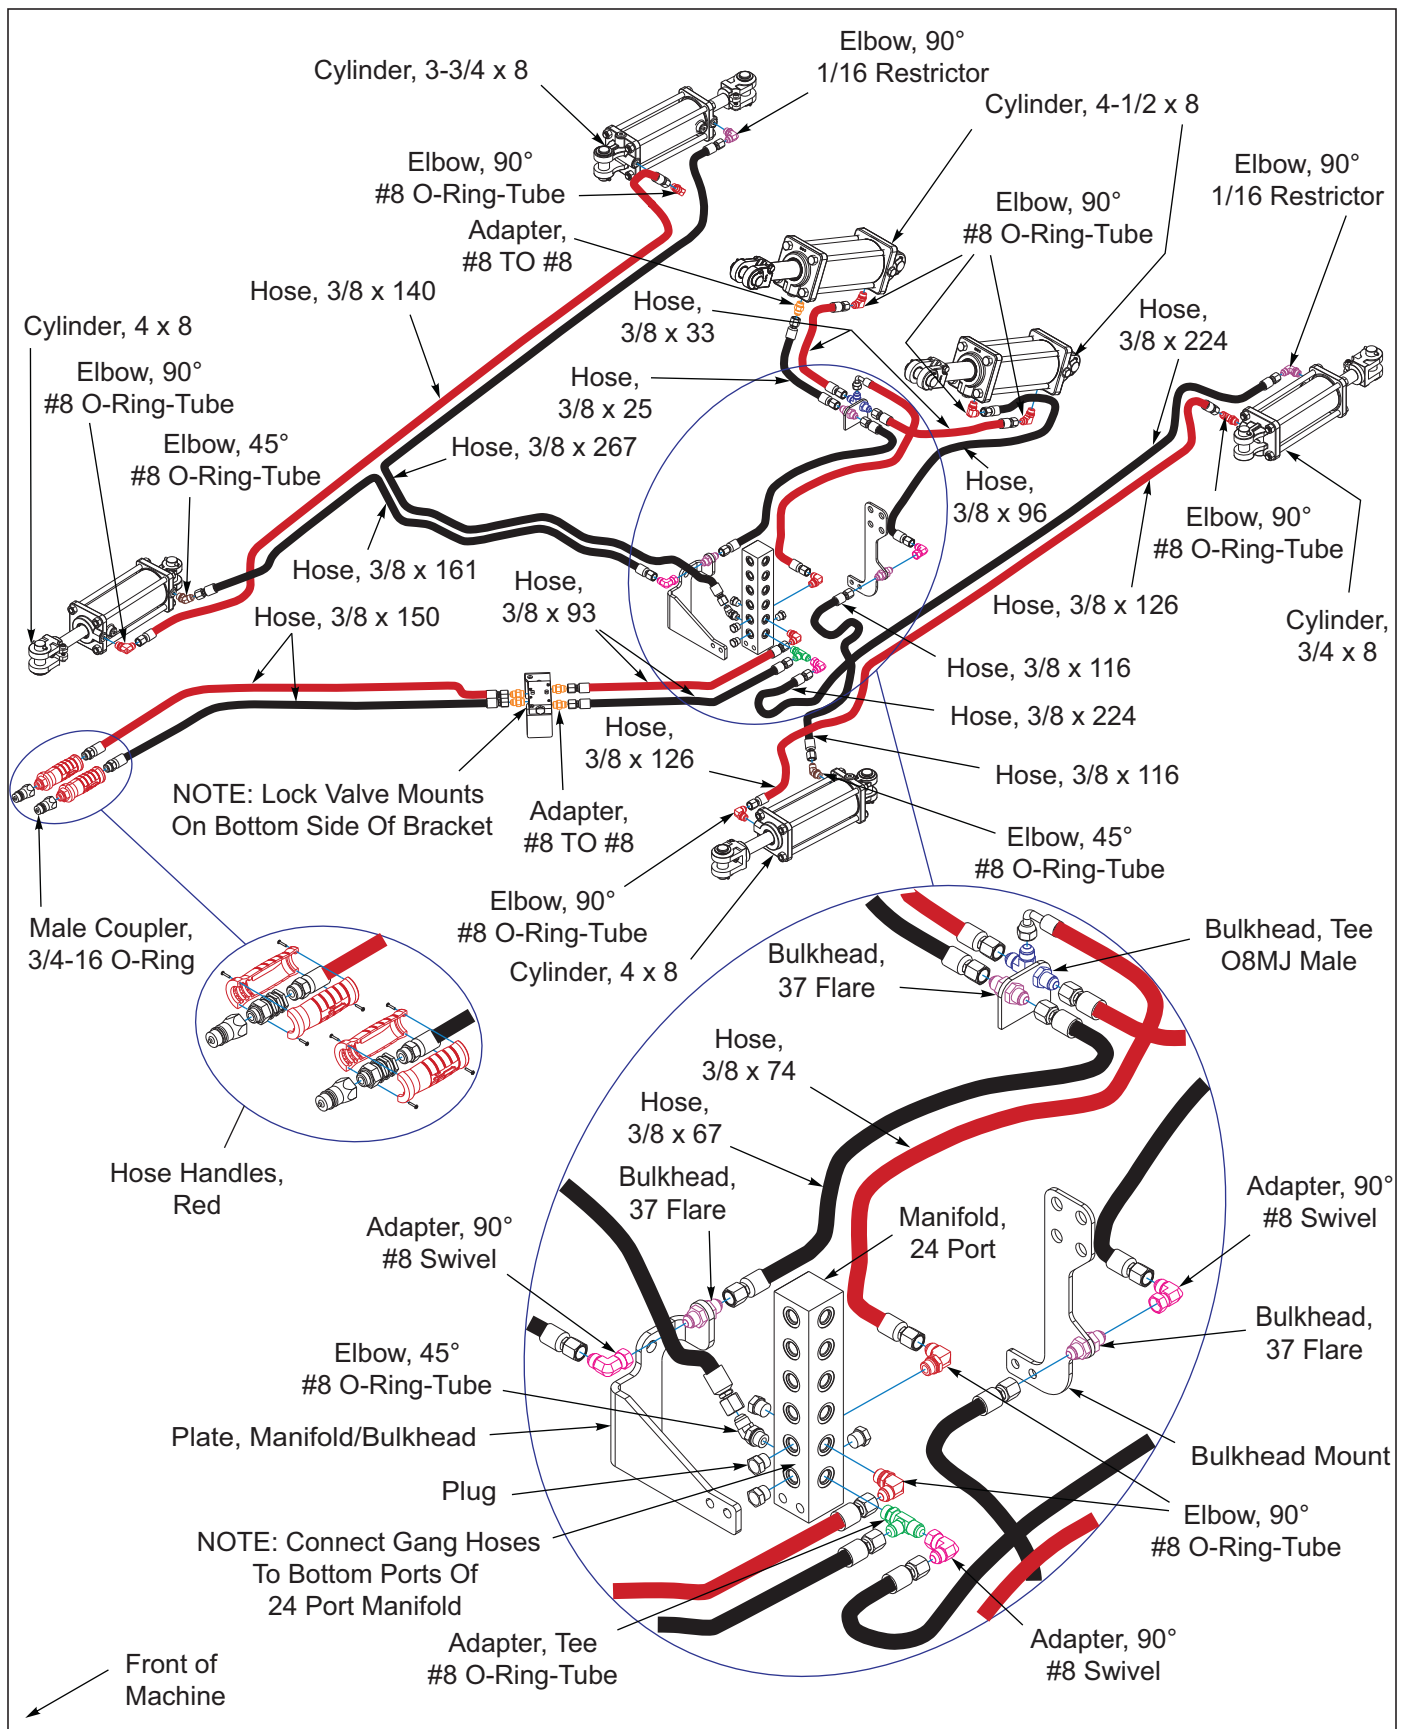
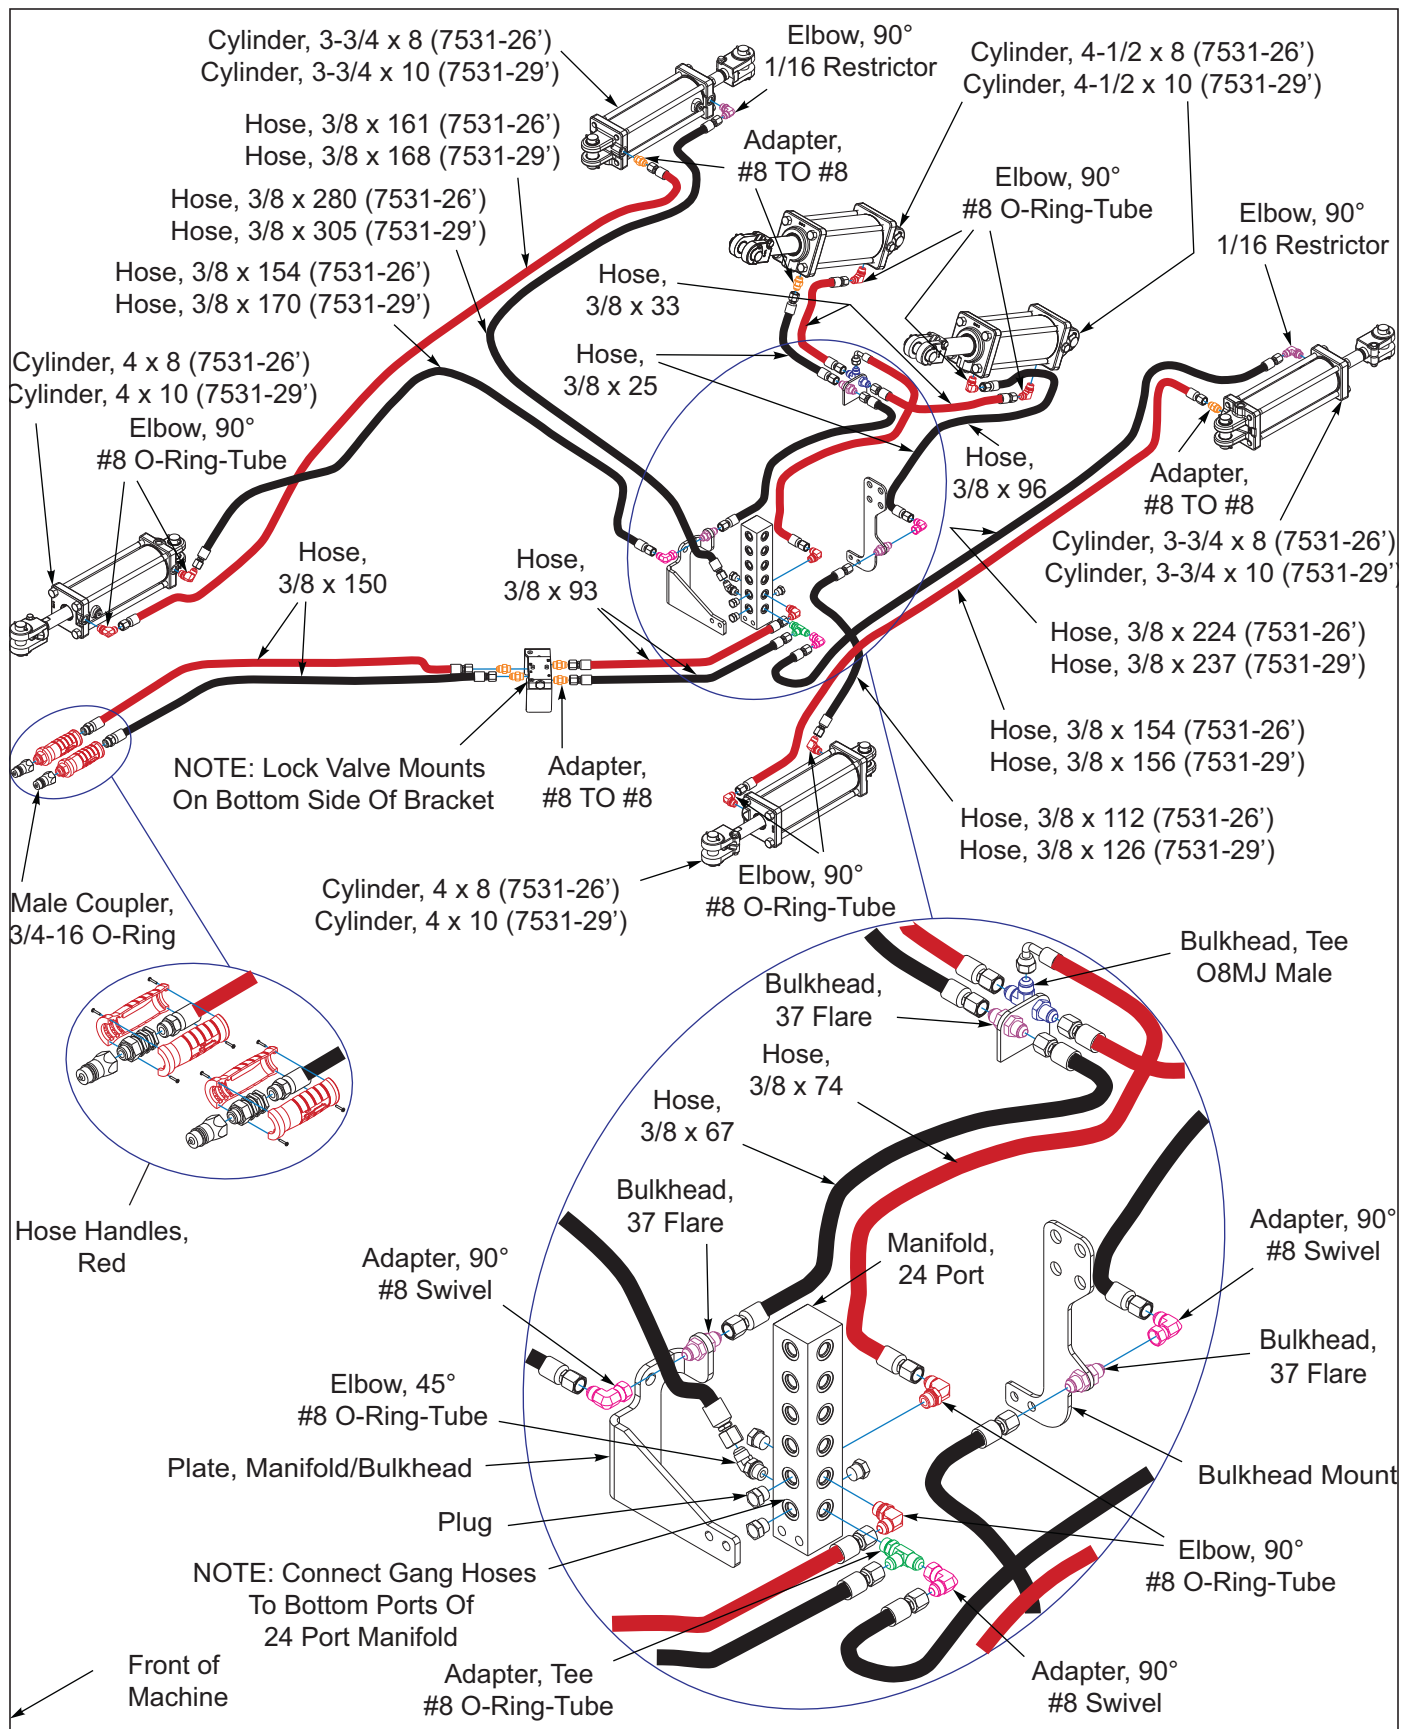
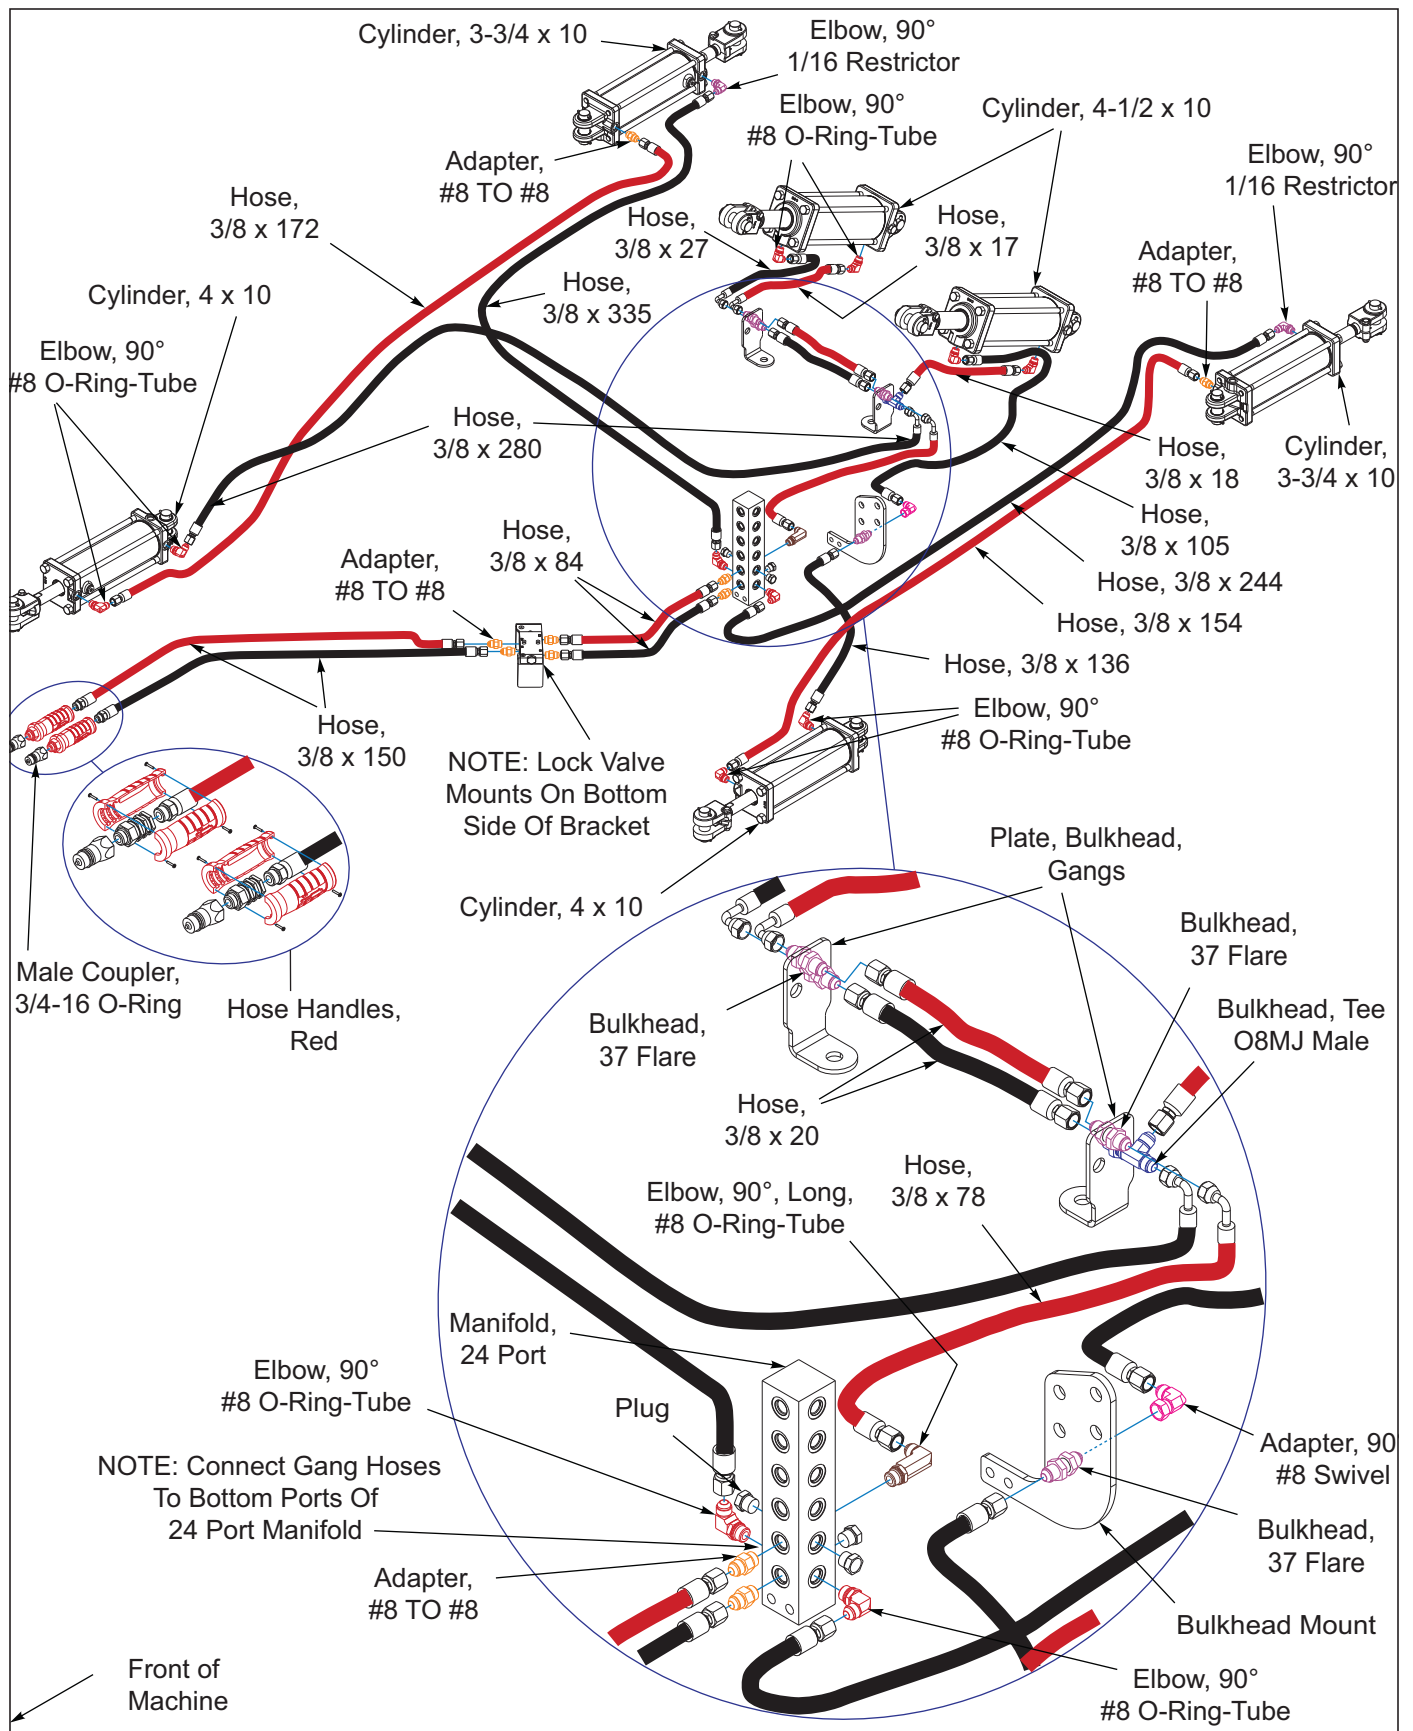

Figure 3-27: Gang Hydraulic Installation 7531-23'
Figure 3-30: Gang Hydraulic Installation 7531-26'-29'
Figure 3-33: Gang Hydraulic Installation 7531-32'-35
1. The disc gang angle cylinders **See Figure 3-27 7531-23'**, **See Figure 3-30 7531-26'-29'** and **See Figure 3-33 7531-32'/35'** use the following fittings: